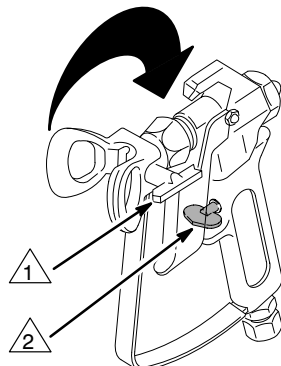

Fig. 5
1. If the spray tip clogs, release the gun trigger, engage the gun safety latch, relieve pressure, and rotate the RAC IV switch tip 180°. See Fig. 5.